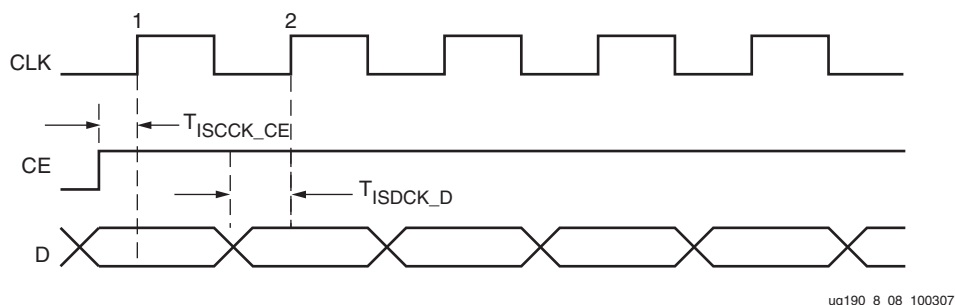

Figure 8-8: ISERDES Input Data Timing Diagram
Figure 8-8 illustrates an ISERDES timing diagram for the input data to the ISERDES. The timing parameter names change for different modes (SDR/DDR). However, the names do not change when a different bus input width, including when two ISERDES are cascaded together to form 10 bits. In DDR mode, the data input (D) switches at every CLK edge (rising and falling).